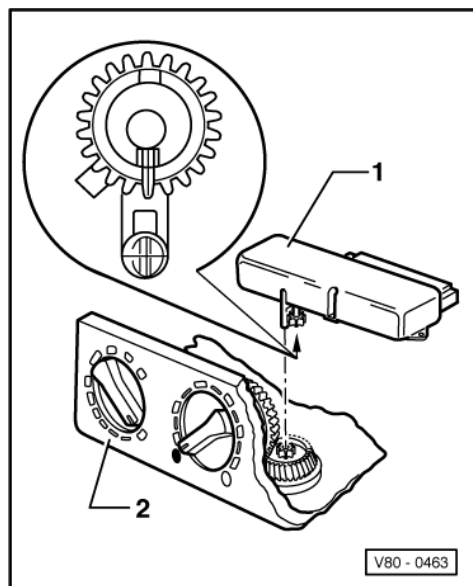

Fig.2 -> Renewing Thermotronic control unit -J214-
- ◆ Adjusting cable at temperature flap => Fig. 2
-> Fig.2 Adjusting cable at temperature flap
- ♦ Renewing=>Fig. 2